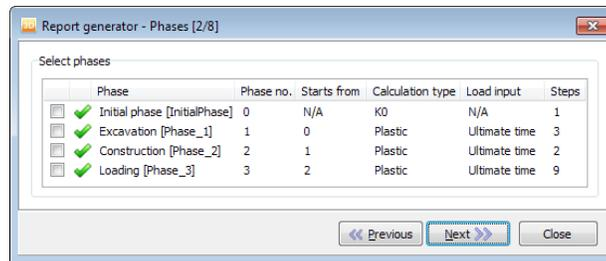

Figure 276: Report generator - Phases
**Step 2:** Select the phases for which results will be included in the report (Figure 276: Report generator - Phases (on page 425)).